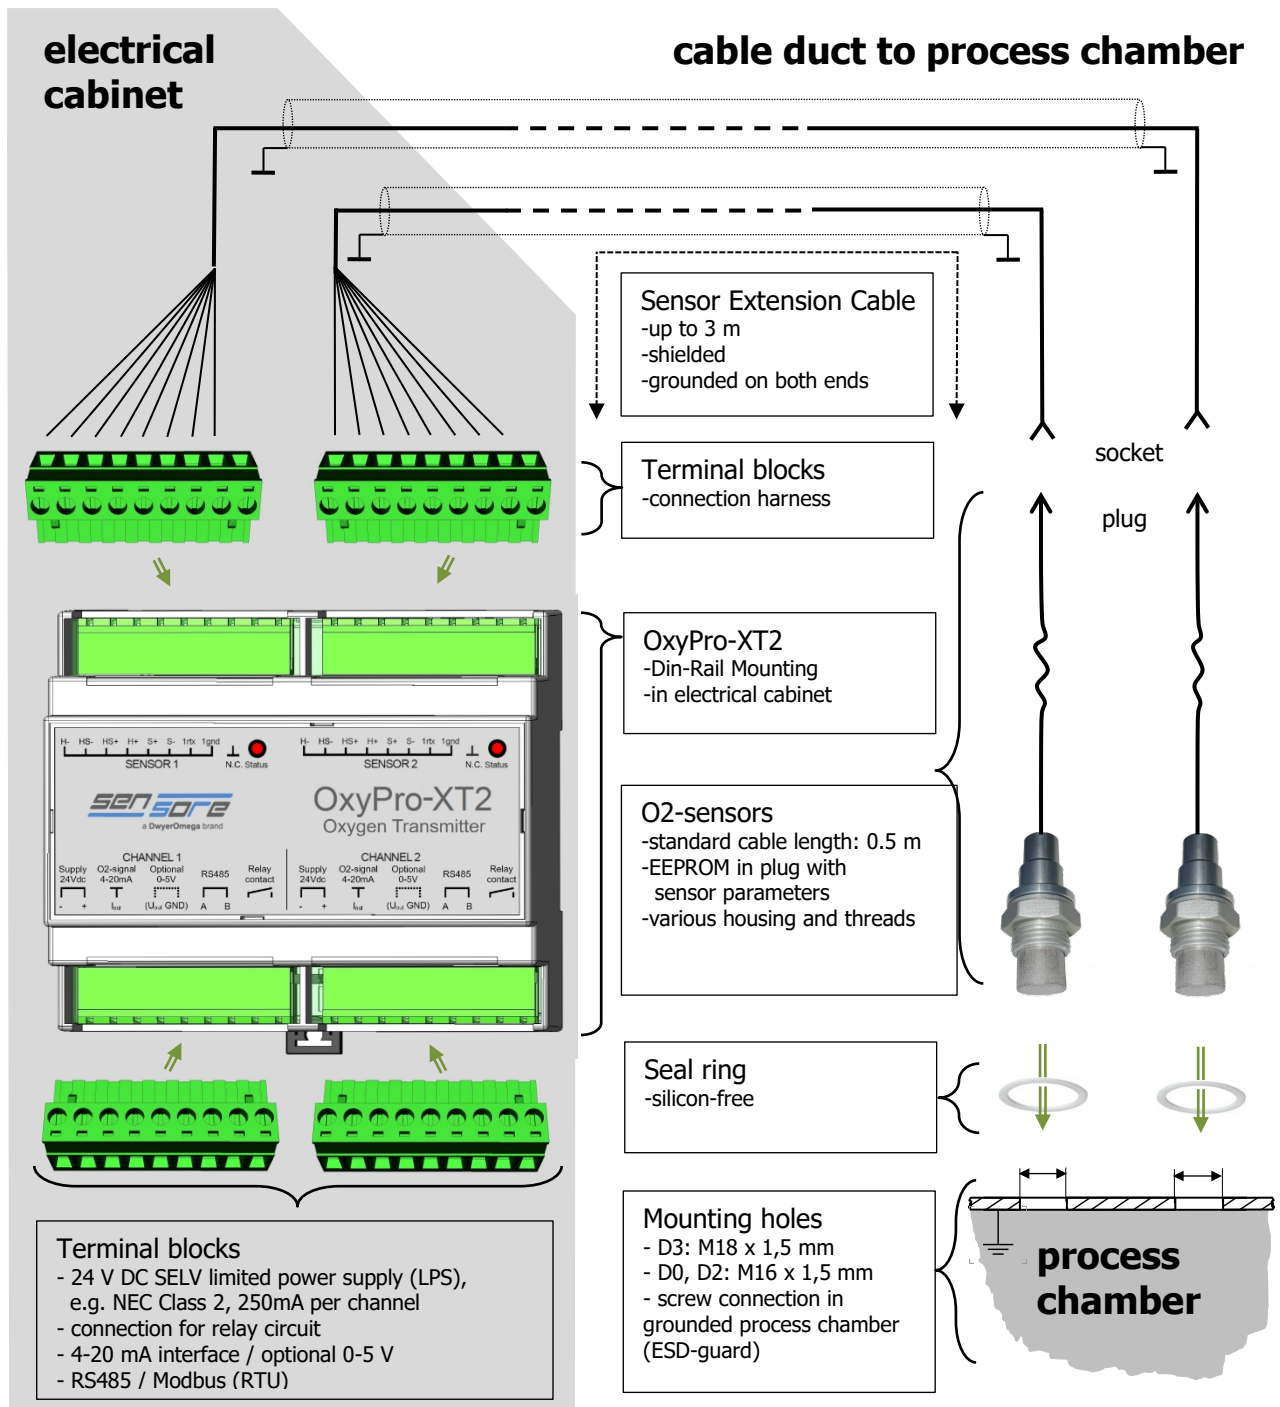

Figure 1. Larger System schematic
- When the sensor's metal housing is screwed directly into the grounded metal wall of the process chamber, it provides adequate protection against electrostatic discharge (ESD). Refer to Figure 1 for guidance.